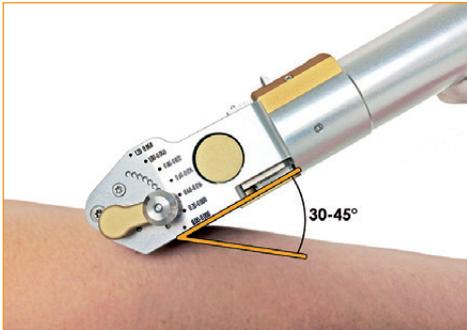

Figure 7. Usage of the Dermatome
- Activate the Motor by pressing the Power Button (“PRESS”). When cutting, push the Cutting Head forward while applying pressure evenly over the tissue at an angle of 30 to 45 degrees. (Figure 7). During cutting the Power Button should be kept pressed.